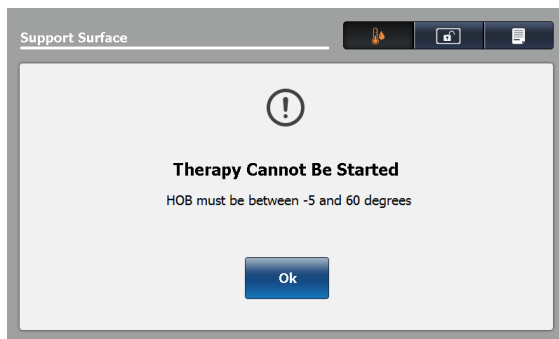

**Figure 49: Notification — siderails not raised**
**Note:** If you do not raise all of the siderails, a notification will display (Figure 49 on page 58). Tap **OK** to return to the previous screen.